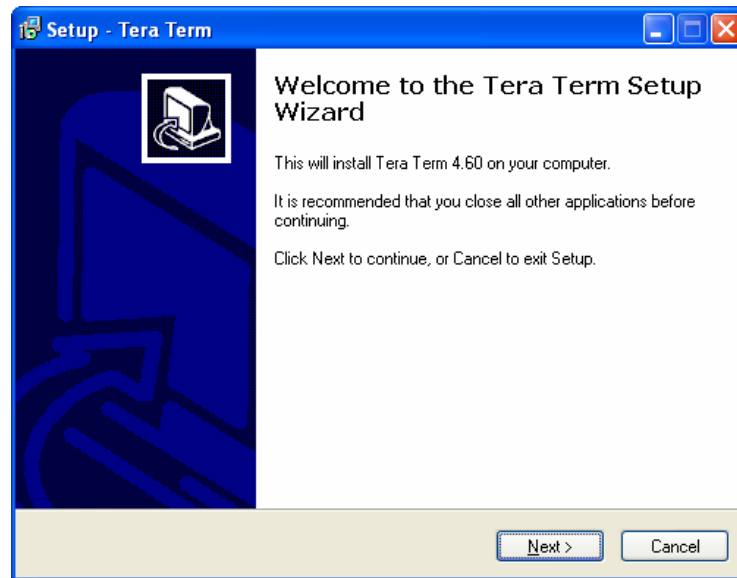

Figure 6-5: Tera Term Setup Screen
7. When the Tera Term setup screen appears, click **N**ext (Figure 6-5).